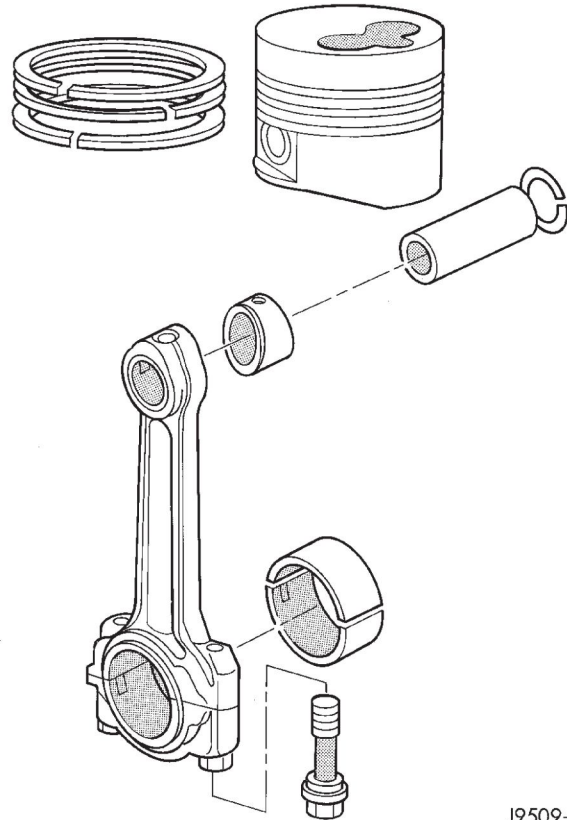

Fig. 75 Piston Assembly
- (1) Secure connecting rod in a soft jawed vice.
- (2) Remove 2 clips securing piston pin (Fig. 75).
- (3) Push piston pin out of piston and connecting rod.